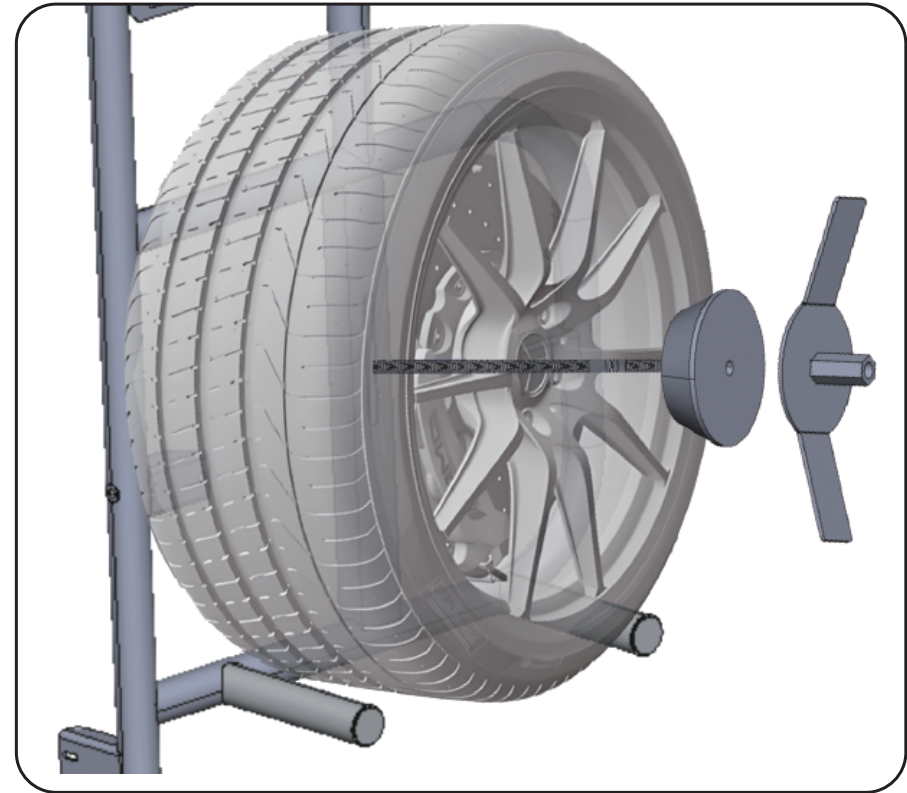

FIG:20
8.2 Attach the Wheel: Lift your wheel onto the carrier and adjust the height of the **Threaded Rod** to be centered in the wheel. Remove the wheel and tighten down the **M14 Nylock Nut** to be firm so it doesn't move up and down but over tightening is not needed as the load in being pulled outward and little load is trying to move it up and down. The wheel can now be installed again and the appropriate **Tire Cone** used slide down the **Threaded Rod** and into the center of the rim, you will follow the **Tire Cone** with the **Tire Handle** and thread that down the rod until it is tight, pushing the Tire into the frame of the Carrier and the Cone evenly seated in the wheel. (FIG 20).